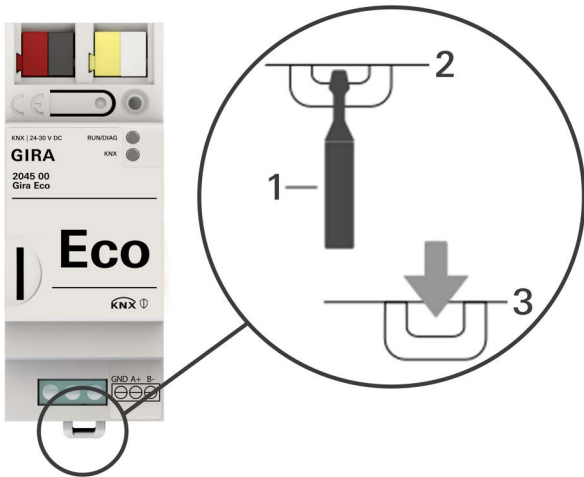

Figure 28: Detaching the device from the top-hat rail
1. Insert a screwdriver (figure 28, pos. 1) into the release lever (figure 28, pos. 2) and push the release lever down (figure 28, pos. 3).